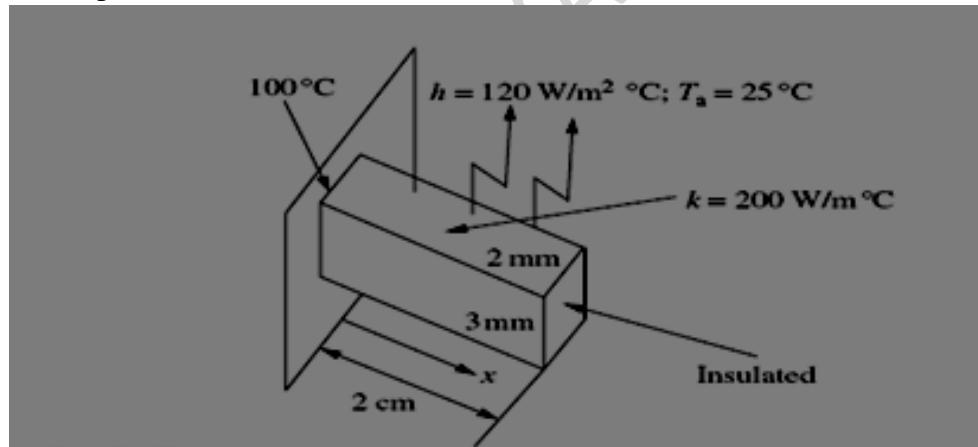

Fig. 7b
b) Determine the temperature distribution in the rectangular fin shown in Fig. 7b. Use two 2 nodded 1d heat transfer elements. Also, interpolate the results and obtain temperatures at 0.005m 14